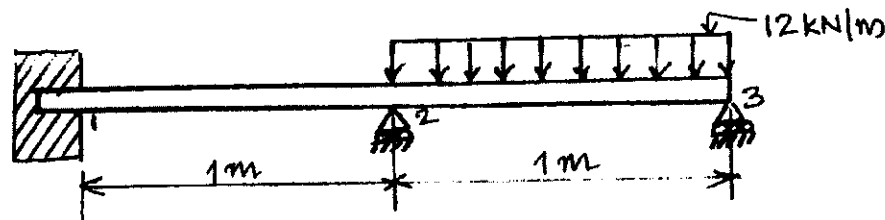

Fig. Q7 (b)
b. For the beam and loading shown in Fig. Q7 (b), determine the slopes at 2 and 3 and the vertical deflection at the midpoints of the distributed load. Take  $E = 200 \text{ GPa}$ ,  $I = 4 \times 10^6 \text{ mm}^4$ . (12 Marks)